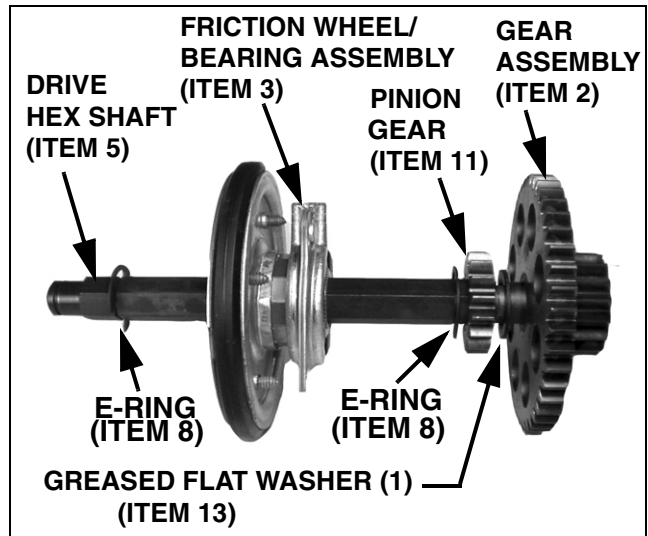

FIGURE 12
21. Pack AeroShell 22 Grease, Item 18, into the needles in the bearing and apply a coating onto the bearing seals of Gear Assembly, Item 2. Apply AeroShell 22 Grease, Item 18, to the sides of one (1) Flat Washer, Item 13. Pre-assemble the new Drive Hex Shaft Assembly as shown in Figure 12.